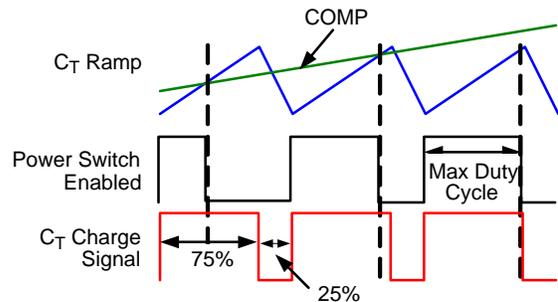

Figure 39. Auxiliary Winding Operation with Output Overload Timing Diagram
The oscillator is optimized for operation up to 1 MHz and its frequency is set by the external timing capacitor (CT) connected to the CT pin. The oscillator has two modes of operation: free running and synchronized (sync). While in free running mode, an internal current source sequentially charges and discharges CT generating a voltage ramp between 3.0 V and 3.5 V. Under normal operating conditions, the charge (ICT\_C) and discharge (ICT\_D) currents are typically 172 μA and 515 μA, respectively. The charge/discharge current ratio of 1:3 discharges CT in 25% of the total period. The power switch is disabled while CT is discharging, guaranteeing a maximum duty cycle of 75% as shown in Figure 39.
The pulse width modulation technique is seen in Figure 39.